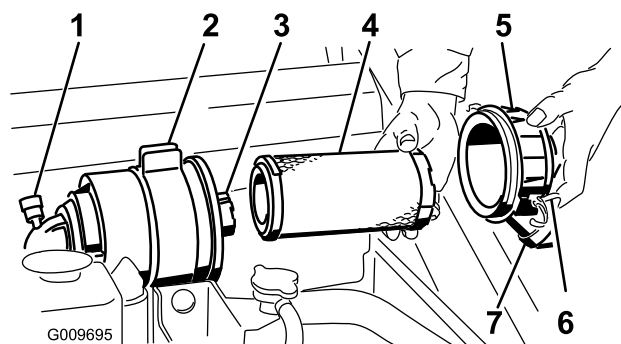

Figure 33
Important: Service the air cleaner filter only when the service indicator shows red (Figure 33). Changing the air filter before it is necessary only increases the chance of dirt entering the engine when the filter is removed.
4. Release the latches on the air cleaner and pull the air cleaner cover off of the air cleaner body (Figure 33).
1. Gently slide the primary filter out of the air cleaner body (Figure 33). Avoid knocking the filter into the side of the body.
4. If you are replacing the safety filter, carefully slide the new filter into the filter body (Figure 33).
5. Carefully slide the primary filter over the safety filter (Figure 33). Ensure that it is fully seated by pushing on the outer rim of the filter while installing it.
6. Install the air cleaner cover with the side indicated as UP facing up and secure the latches (Figure 33).